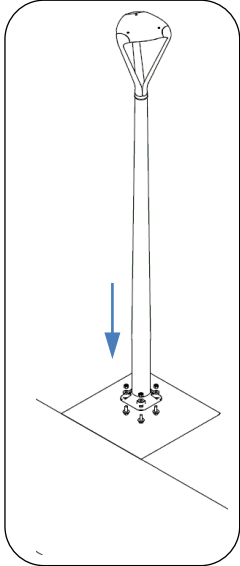

Fig. 1 – Pole orientation
1. Lift the light pole into position over the installed anchors (refer to FGP area light anchor kit installation guide) as shown in Fig. 1. Ensure that the base plate is resting on all four washers.